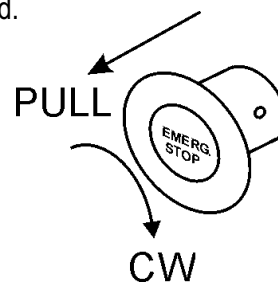

Figure 46. Emerg. Stop Button (Dis-engaged)
2. To dis-engage the emergency stop switch (Figure 46), **PULL** the emergency stop outward and turn clockwise. When the switch is in this position (not active) the engine can be restarted.